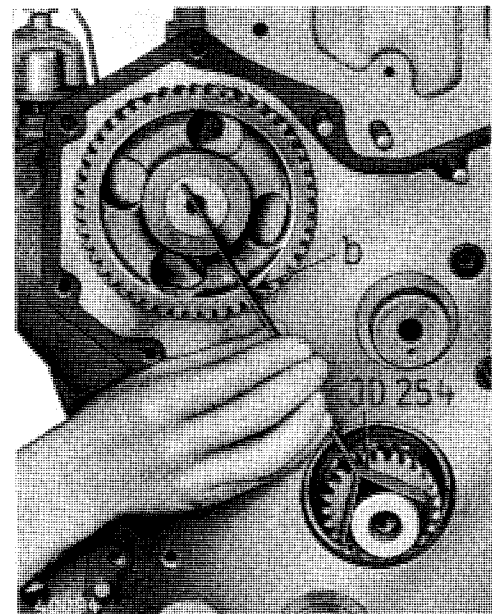

Fig. 3 — Timing Camshaft Gear by means of Timing Tool No. JD 254
5. With the crankshaft set at TDC (see step 2), align timing mark stamped onto camshaft gear (see "b", fig. 3) with center of crankshaft as shown in fig. 3, using timing tool No. JD 254.